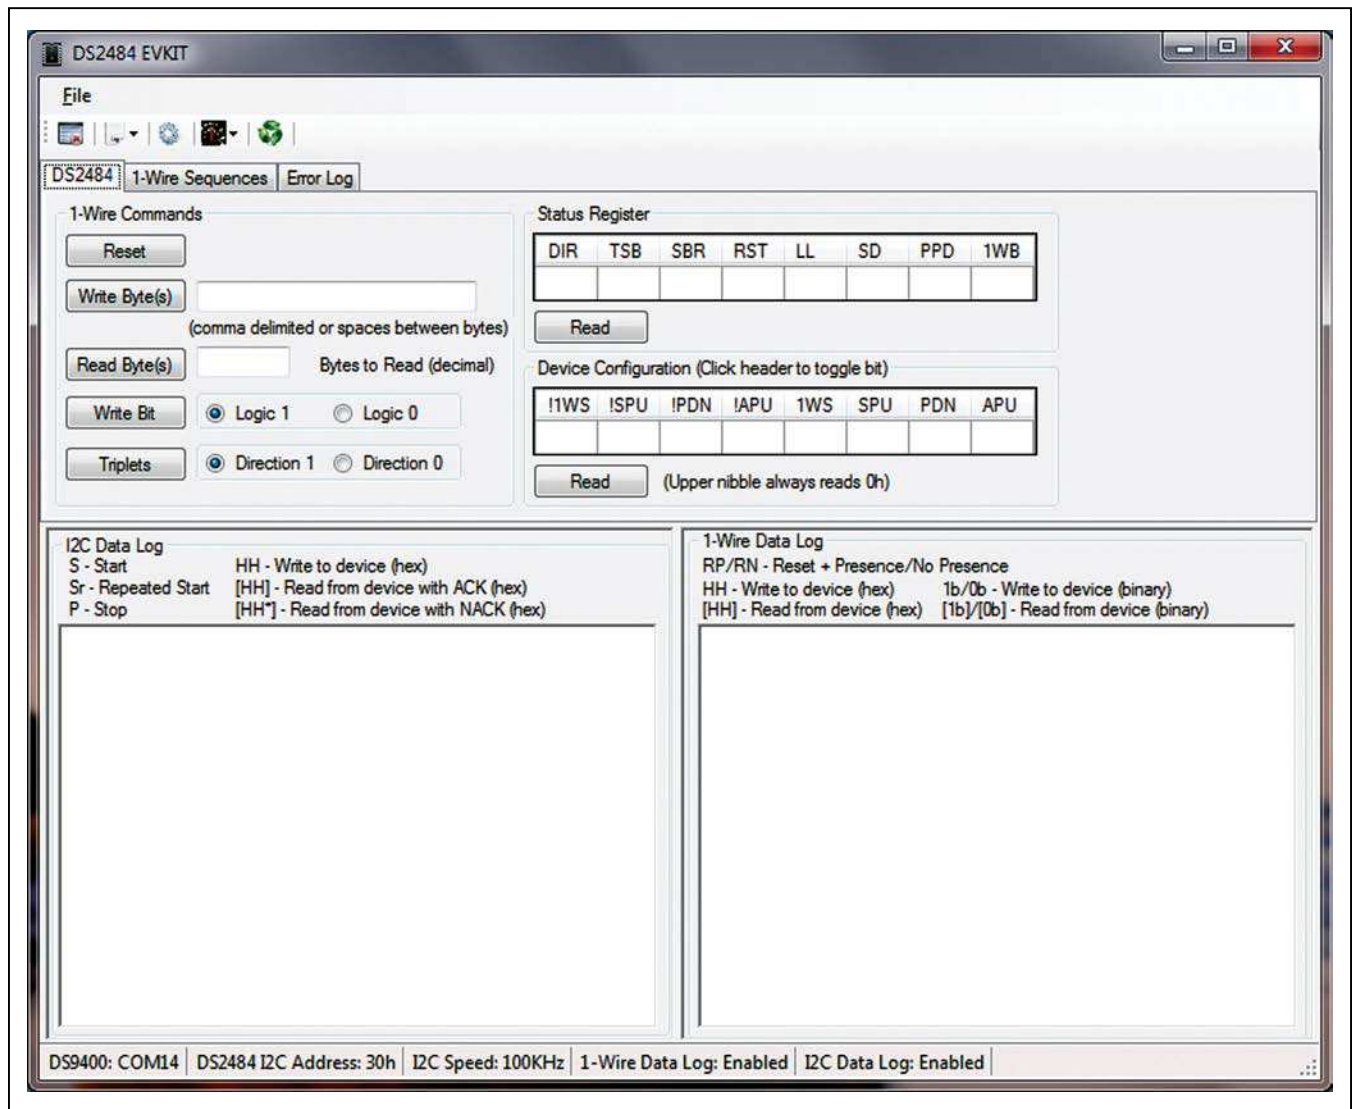

Figure 4. DS2484 EVKIT Main Window
- 7) The DS2484 EV kit software detects if the PC has the required .NET Framework 2.0 files. If the files do not exist, the program prompts to download them from the web. Otherwise, the program will install and display the **DS2484 EVKIT** main page (Figure 4).
Figure 4 shows the evaluation software’s main window. This window consists of three main tabs: **DS2484**, **1-Wire Sequences**, and **Error Log**. The **I2C Data Log** and the **1-Wire Data Log** group boxes are shown regardless of which tab is selected and display communication activity.